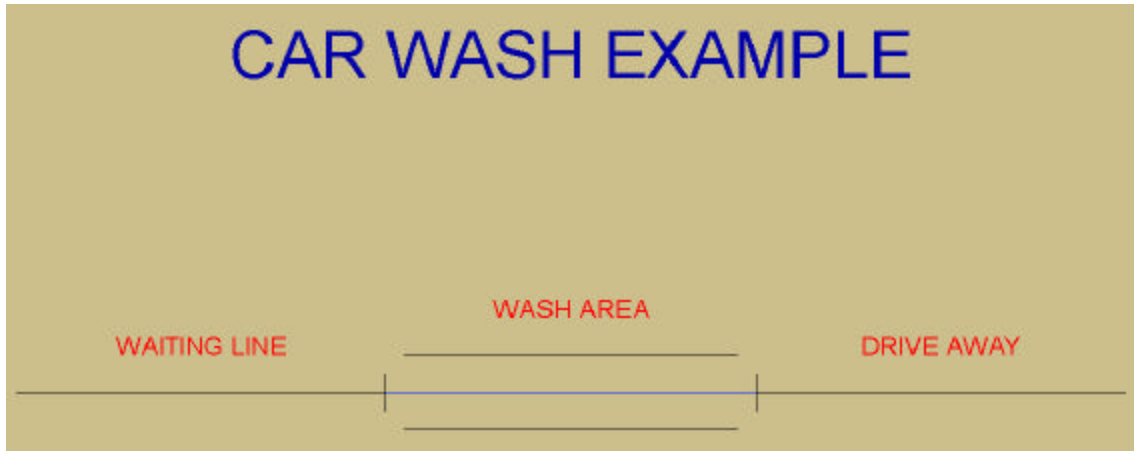

Figure 8-1: *Carwash.lay*
The Layout file `carwash.lay`, found in the `exercise` folder, contains definitions for the three Paths, ENTRY, CHAIN, and EXIT, as well as the “Car” Object Class called Car. Remember that these names are case sensitive (use “ENTRY” and “Car”, not “Entry” or “CAR”). The appearance of the layout file is shown in Figure 8-1.
- We drew three horizontal lines, end-to-end. The leftmost line is visible in the waiting line area, and the rightmost line is visible in the drive away area. The center line was drawn in the Backdrop color, so although it’s visible in Figure 8-1, when an animation runs, this line is invisible.